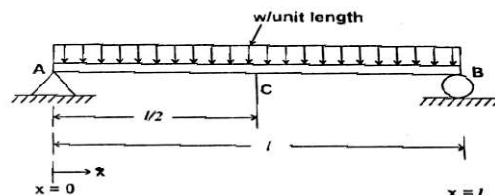

Figure-1
- b) Determine the deflection at the centre of a simply supported beam subjected to uniformly distributed load over the entire span of length l as shown in figure -1. Use Rayleigh Ritz method. 13,K3,CO1